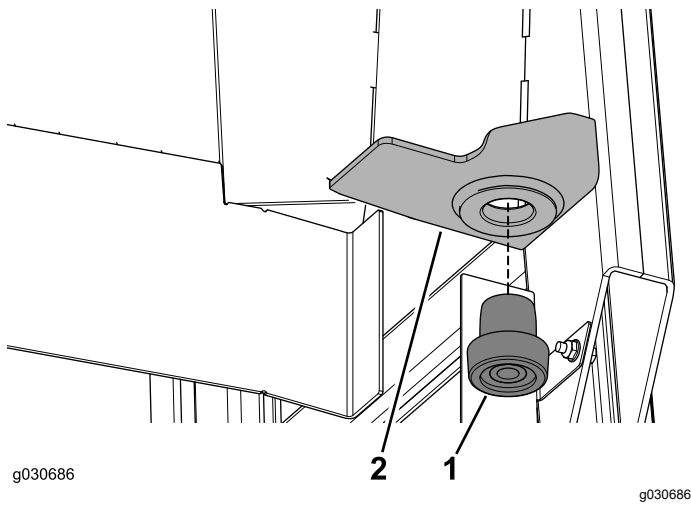

Figure 12
2. Press a rubber isolator into the hole of the right, rear mount on the cab frame (Figure 12).